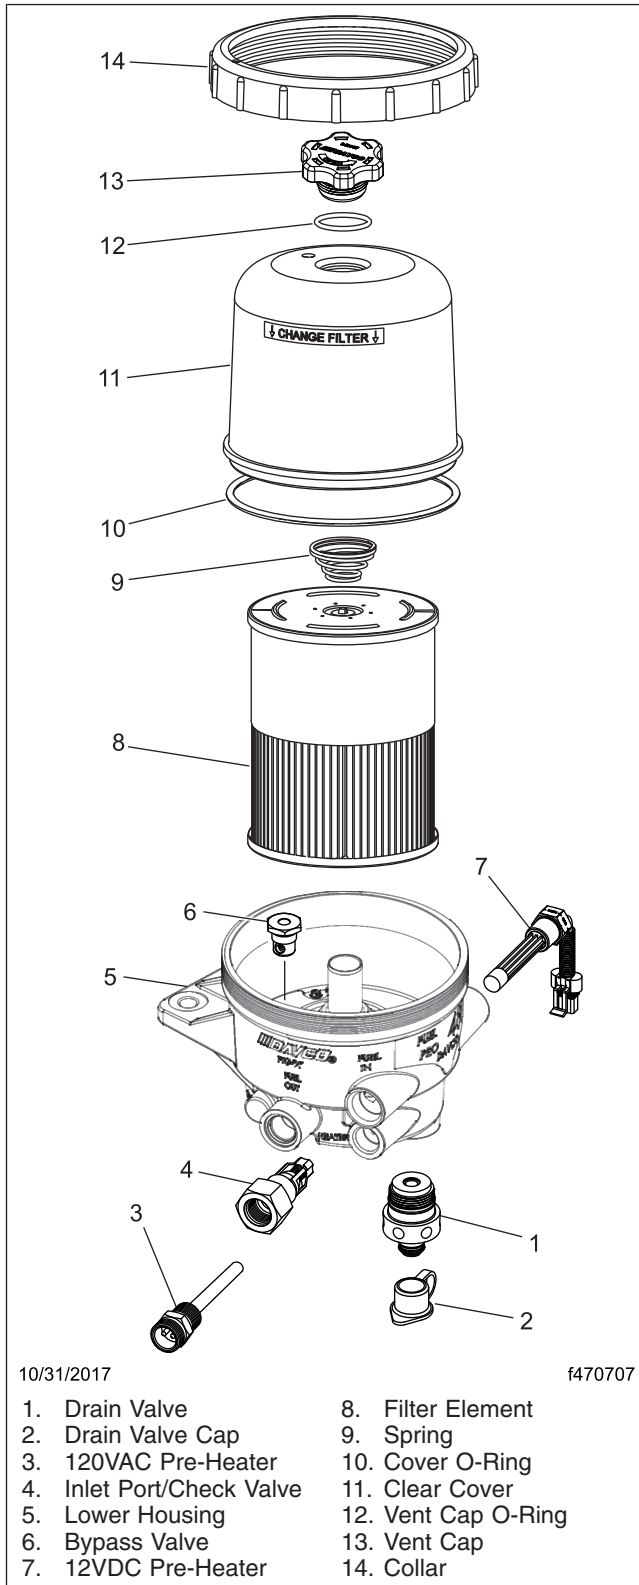

Fig. 6, DAVCO Fuel Pro 487
4. Remove the vent cap, shown in Fig. 6, to drain the fuel completely, then close the drain valve.
6. Remove the filter, cover O-ring, and vent cap O-ring. Dispose of them in an environmentally acceptable manner. See Fig. 6.